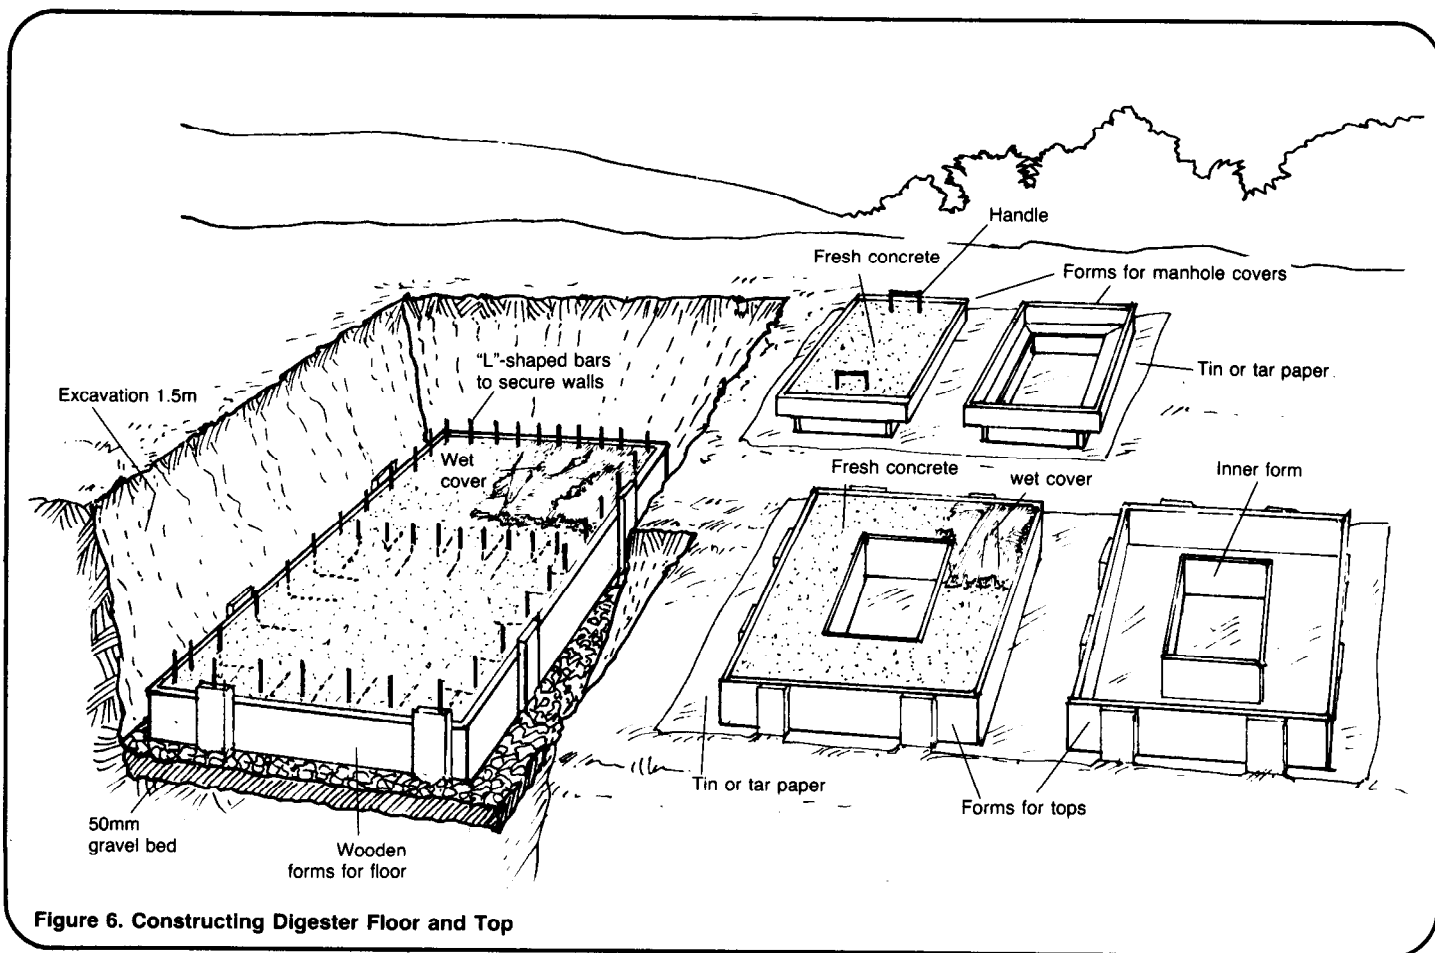

Figure 6. Constructing Digester Floor and Top
3. Dig the hole for the digesters 1.0-1.5m deep. Allow a working area of about 0.3m around all sides. Make the bottom of the hole level, tamp well, and spread a 50mm layer of gravel. See Figure 6.
6. Pour in concrete to about 50mm from the top of the forms. Lay in reinforcing material such as steel rods, wire mesh, or bamboo strips. If L-shaped bars are available, position them in the concrete so that the vertical portion of the "L" will extend up into the center thickness of the walls. See Figure 6.
8. While the concrete floor is setting up, build the forms for the top and manhole covers. Pour in concrete until the forms are about half full, lay in reinforcing material, then fill the forms with concrete. Set handholds made of horseshoes or bent steel rods into the concrete, trowel smooth, and cover with wet straw or burlap. Keep moist for five to seven days. See Figure 6.